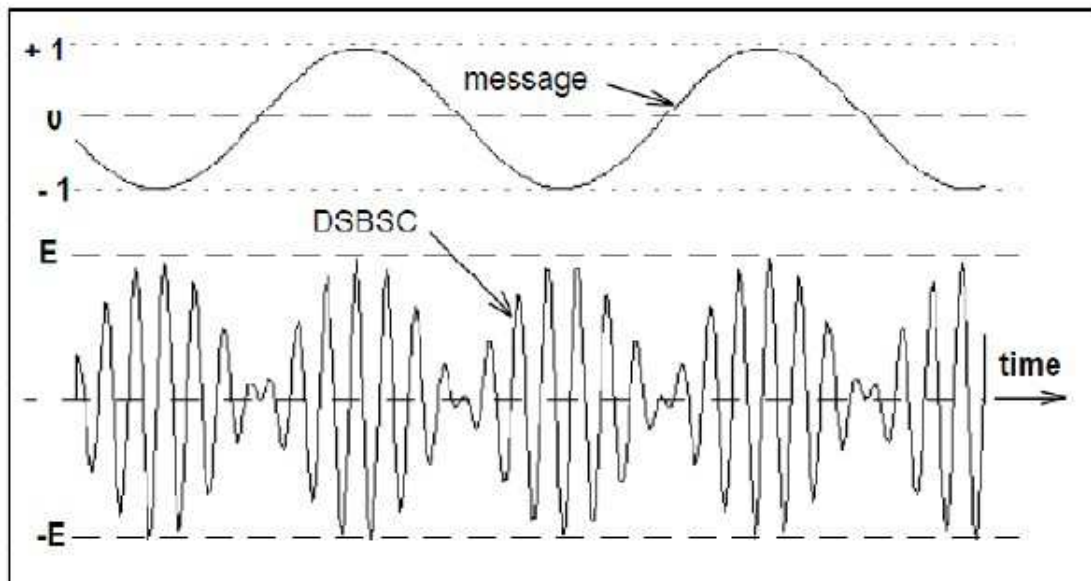

Figure 2: DSBSC - seen in the time domain
The time domain appearance of a DSBSC (eqn. 1) in a text book is generally as shown in Figure 2.
Notice the waveform of the DSBSC in Figure 2, especially near the times when the message amplitude is zero. The fine detail differs from period to period of the message. This is because the ratio of the two frequencies μ and ω has been made non-integral. Although the message and the carrier are periodic waveforms (sinusoids), the DSBSC itself need not necessarily be periodic.
- The 180 phase reversal causes the positive (or negative) side of the envelope to have a shape different from that of the message signal, see Figure 2.